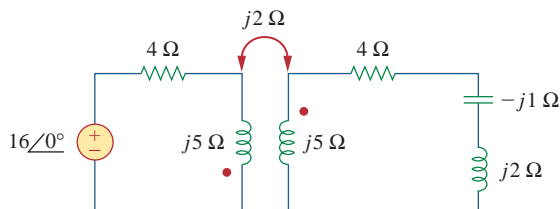

Figure 13.82
13.13 For the circuit in Fig. 13.82, determine the impedance seen by the source.